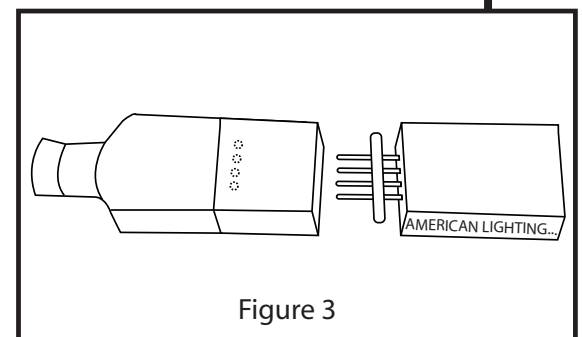

Figure 3
2. Insert barbed end of power connector pin into LED 4-Wire being sure to align pins with end of the conductors (see Figure 3). Push pins into LED 4-Wire as far as possible without using tools (about halfway). Although it requires significant force to insert powerpin connector in to the LED 4-Wire, the use of tools may result in damaged or broken parts.
4. Orient power pin connectors with same orientation as holes in power cord sheath, as shown in Figure 3, and insert live end of rope light with attached pins into power cord end, pushing hard while rocking LED 4-Wire and cord back and forth to make a secure connection.